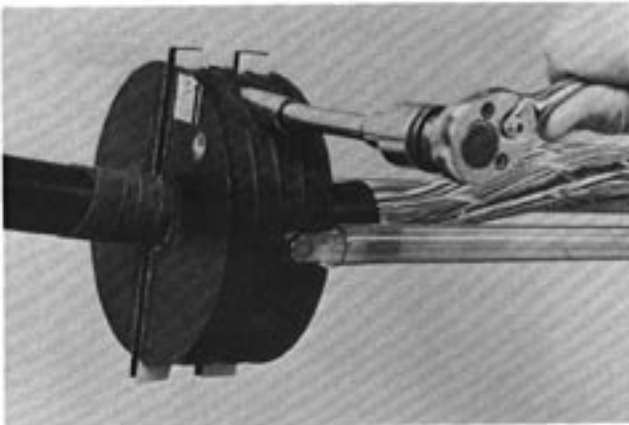

FIGURE 24 - DRAWING END PLATE HALVES TOGETHER
8.07 Using a ratchet wrench, draw the End Plate halves completely together until the excess LOCK-TAPE Sealant separates and lays back as illustrated in Figure 24.